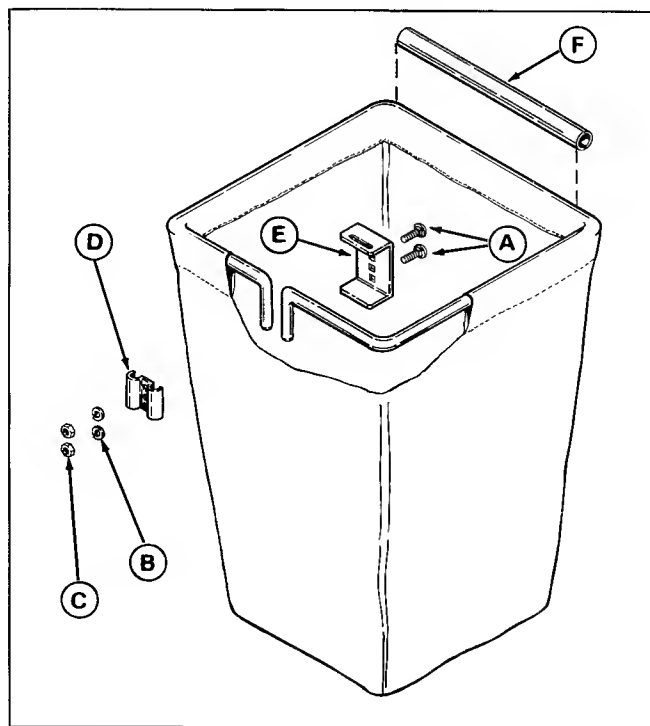

Figure 13.
15. Connect the brackets (D & E, figure 13) to the bag frames with slot toward top. Use two carriage bolts (A), lockwashers and nuts for each bag. Use top and bottom holes in brackets (D & E); the middle hole will be empty. The clotch is shown cut away for clarity only - be sure the brackets are outside of the bag.
16. Install the tubes (F, figure 13) onto the bags as shown.